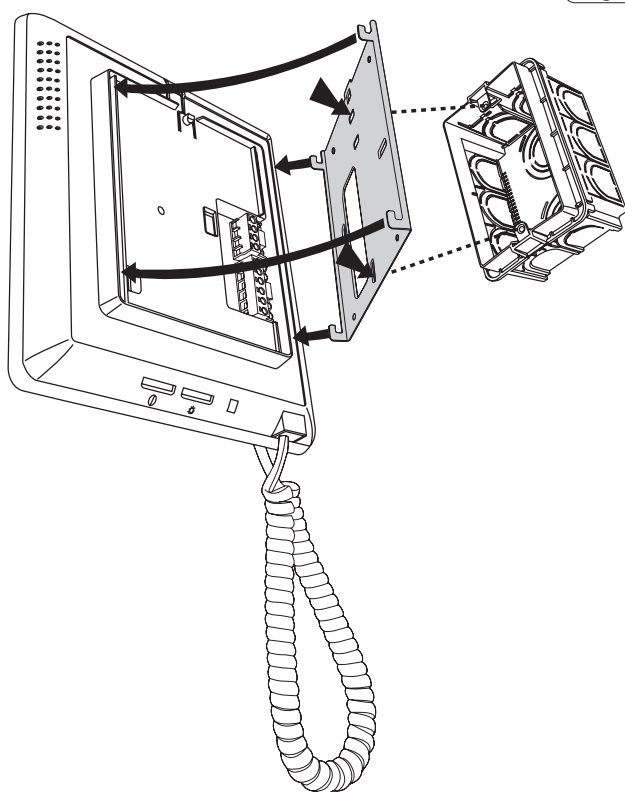

Fig. 6
- If the monitor needs to be removed, push lightly into the slot (Fig. 6) and raise it so as to release the monitor from the frame.